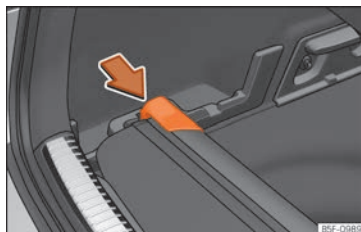

Fig. 144 In the luggage compartment: space to store the retractable shelf.
- Press the head of the retractable shelf in the direction of the arrow until it engages in its housing »» Fig. 144.